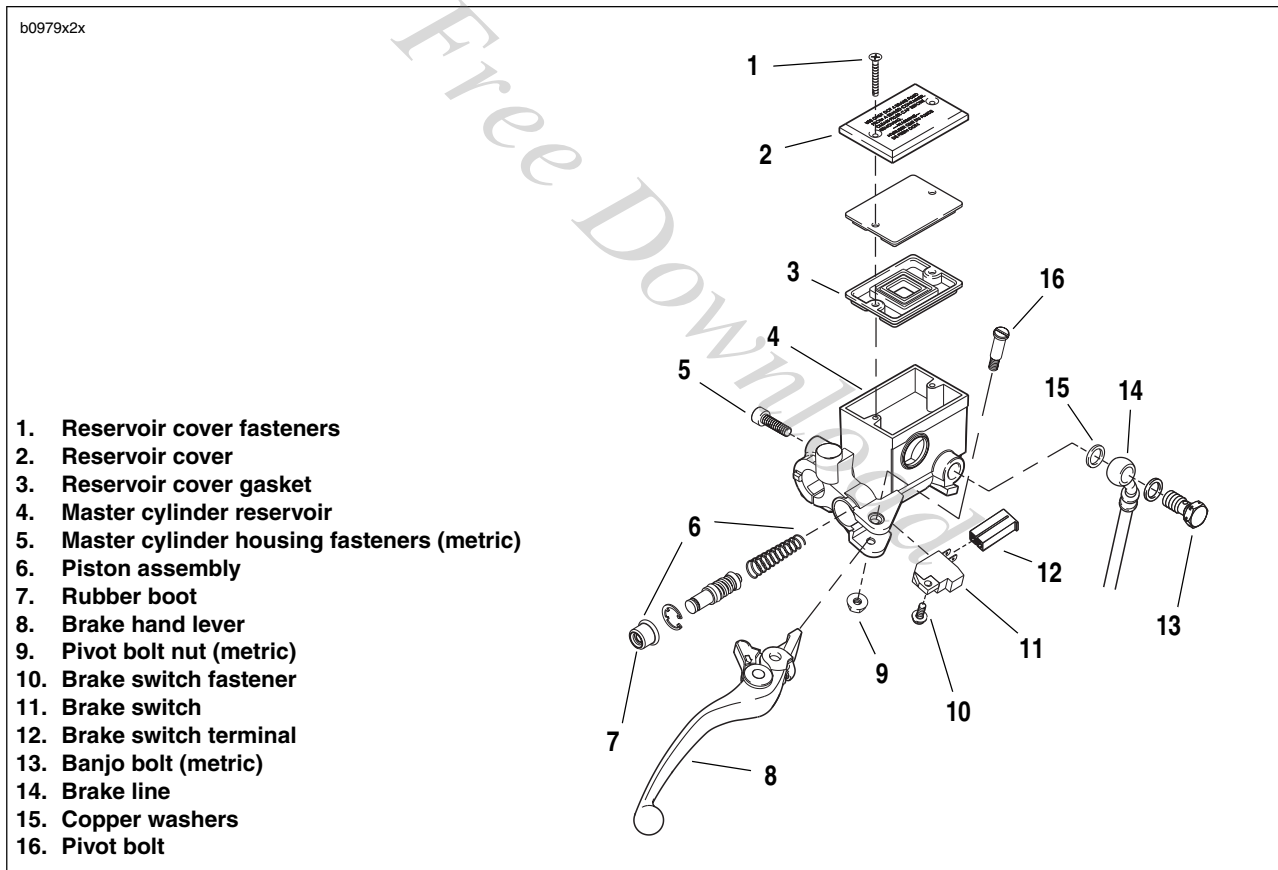
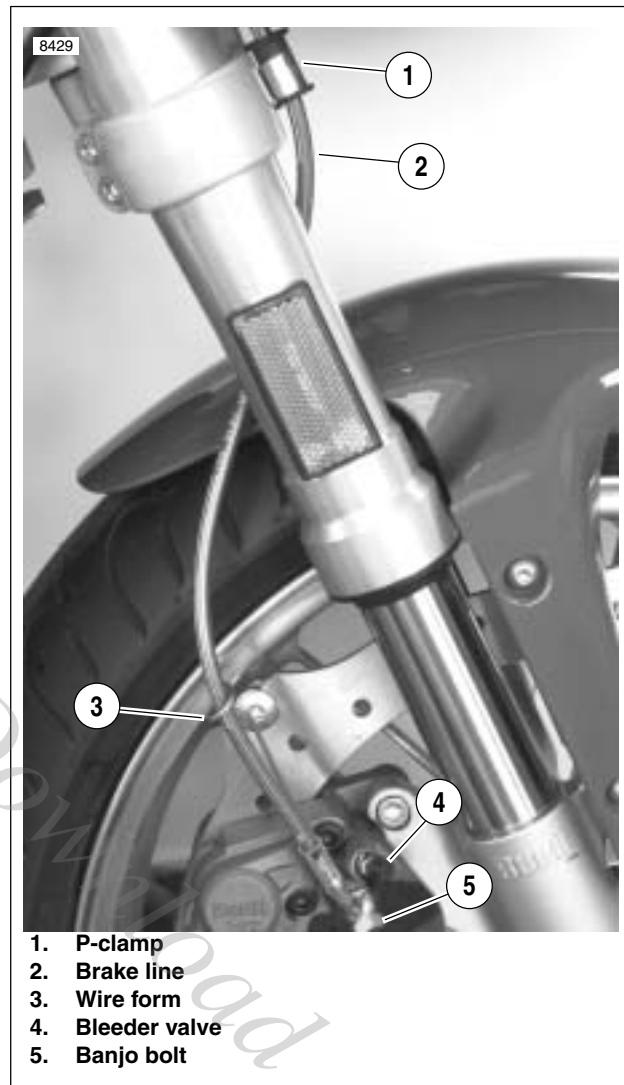

Figure 2-37. Front Brake Hand Lever Assembly
Figure 2-42. Front Brake Line
2. See Figure 2-37. Remove the banjo bolt (13) (metric) and two copper washers (15) to disconnect brake line (14) from master cylinder (4). Discard copper washers.
3. Unplug terminal (12) to detach brake lamp switch (11).
1. See Figure 2-37. Remove pivot bolt nut (9) (metric) and pivot bolt (16) from hand lever pivot.
2. Detach front brake hand lever assembly (8) from hand lever pivot.
3. Detach front brake lamp switch (11) by removing the switch fastener (10).
1. See Figure 2-37. Remove master cylinder cover (2) by removing cylinder cover fasteners (1).
3. Remove rubber boot (7) and discard.
5. See Figure 2-37. Remove piston assembly (6) from front master cylinder reservoir (4) and discard.
4. See Figure 2-37. Insert piston assembly (6), spring first, into master cylinder reservoir (4).
1. See Figure 2-37. Lubricate pivot bolt (16) with LOCTITE ANTI-SEIZE.
2. Align hole in hand lever (8) with hole in hand lever pivot and install pivot bolt (16) through top of hand lever pivot and tighten nut to 80-120 **in-lbs** (9-14 Nm).
1. See Figure 2-37. Install front brake lamp switch (11).
- a. Install brake lamp switch (11) with switch fastener (10) and tighten to 7-10 **in-lbs** (0.8-1.0 Nm).
- b. Connect brake switch terminal (12) to brake lamp switch (11).
3. See Figure 2-37. Connect brake line to master cylinder using two **new** copper washers (15) and banjo bolt (13) (metric) and tighten to 16-20 **ft-lbs** (22-27 Nm).
5. See Figure 2-37. Remove two master cylinder cover screws (1), cover (2) and cover gasket (3).
10. See Figure 2-37. Attach master cylinder cover (2) and cover gasket (3). Tighten two cover fasteners (1) to 9-13 **in-lbs** (1.0-1.5 Nm).
2. See Figure 2-42. Remove p-clamp (1) detaching brake line from right side of lower fork clamp.
3. See Figure 2-37. Remove master cylinder banjo bolt (12) (metric) and two copper washers (14) to disconnect brake line from master cylinder (4). Discard copper washers.
4. See Figure 2-42. Remove caliper banjo bolt (5) (metric), two copper washers and wire form (3) to disconnect brake line (2) from caliper. Discard copper washers.
1. See Figure 2-37. Connect brake line (13) to master cylinder (4) using two **new** copper washers (14) and a banjo bolt (12) (metric). Loosely install bolt into master cylinder.
- a. See Figure 2-42. Install **new** copper washer, brake line (2), **new** copper washer and wire form (3) onto banjo bolt (5).
- b. Finger tighten banjo bolt (5) onto front caliper being careful not to pinch wire form (3) while tightening, wire form should rotate around banjo bolt freely.
- c. Twist brake line (2) into wire form (3) spiral and clock wire form against bleeder valve (4).
4. Tighten p-clamp with fastener (1) on lower triple clamp to 36-60 **in-lbs** (4-7 Nm).
5. See Figure 2-37. Tighten master cylinder banjo bolt (12) (metric) to 16-20 ft-lbs (22-27 Nm).
6. See Figure 2-42. Tighten brake caliper banjo bolt (5) (metric) to 16-20 ft-lbs (22-27 Nm).